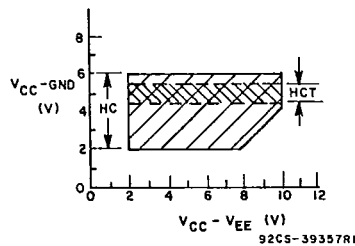

Fig. 2
In addition these devices contain logic-level translation circuits that provide for analog signal switching of voltages between ± 5 V via 5 V logic. Each switch is turned on by a high-level voltage on its select input (S) when the common Enable (E) is Low. A High E disables all switches. The digital inputs can swing between V_{CC} and Gnd; the analog inputs/outputs can swing between V_{CC} as a positive limit and V_{EE} as a negative limit. Voltage ranges are shown in Figs. 2 and 3.